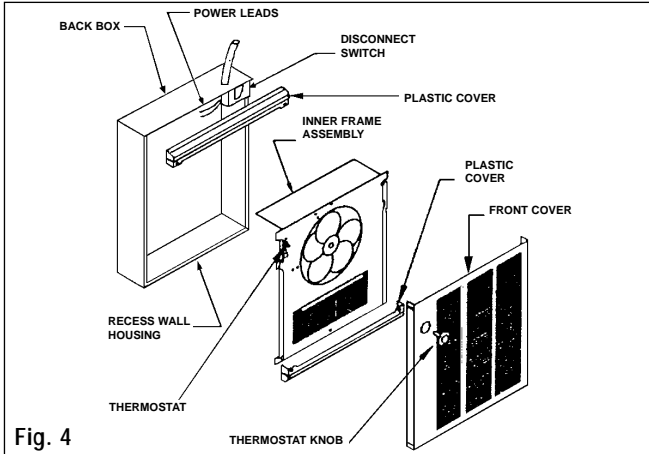

Fig. 4
After back box is completely installed and no further construction dirt is expected, clean debris from back box, remove heater assembly from its carton, then refer to Figure 4 and proceed as follows:
6. Install (2) plastic covers on back box as follows: (See Fig. 4)